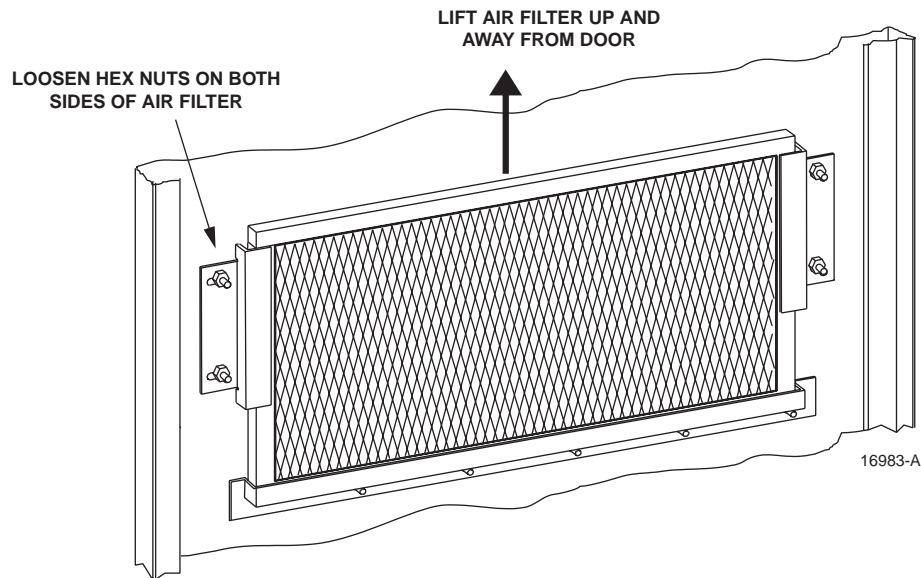

Figure 5-1. Air Filter Removal and Replacement
1. Open the RU cabinet door as shown in Figure 5-1.